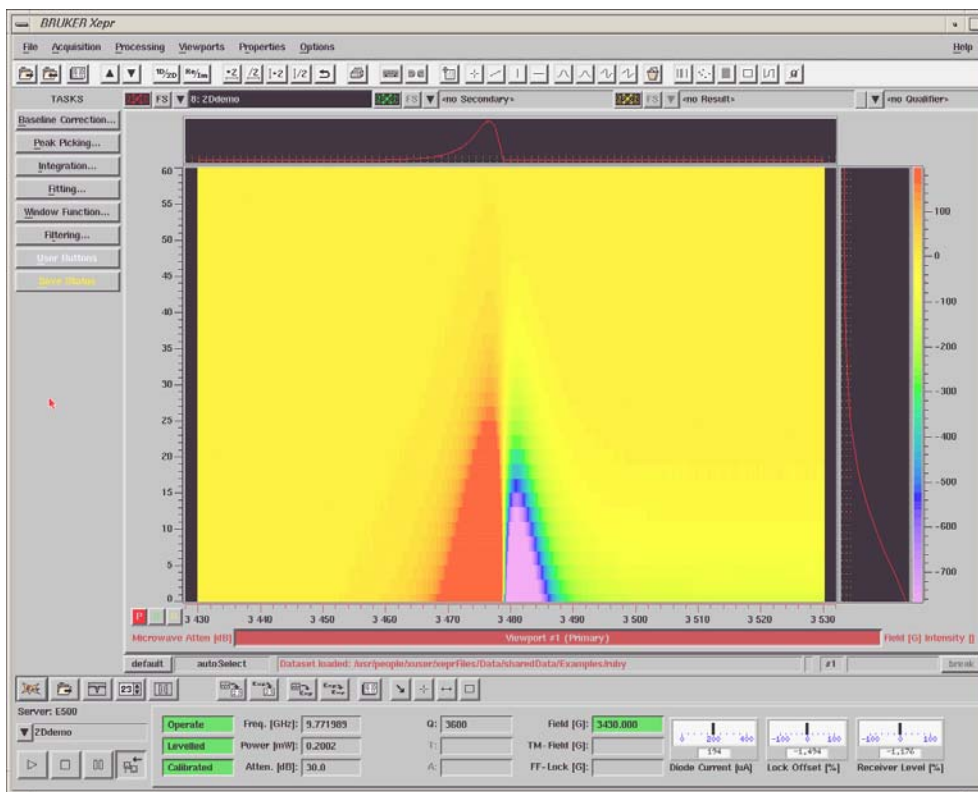

Figure 5-52 A density plot of a 2D dataset.
10. **Display the 2D dataset as a Density Plot.** Sometimes, displaying a 2D dataset as a Density plot can help you analyze the data. Click the Property menu of the Primary section and select density from the Display type list. You should see a display like that in Figure 5-52.